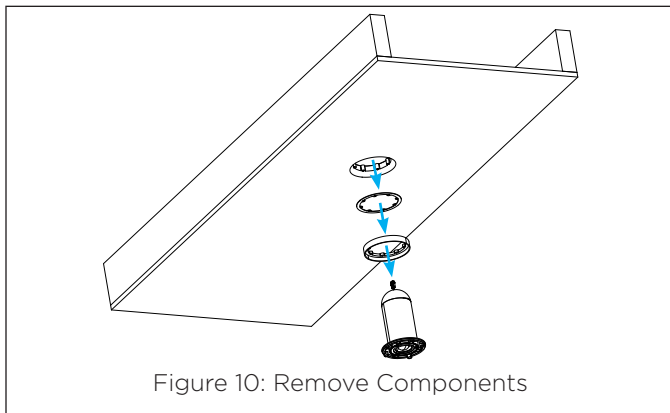

Figure 10: Remove Components
- After the spacers have been adjusted as needed, remove the module and grille aligner from the enclosure. Keep the grille aligner around the speaker module (see Figure 10).